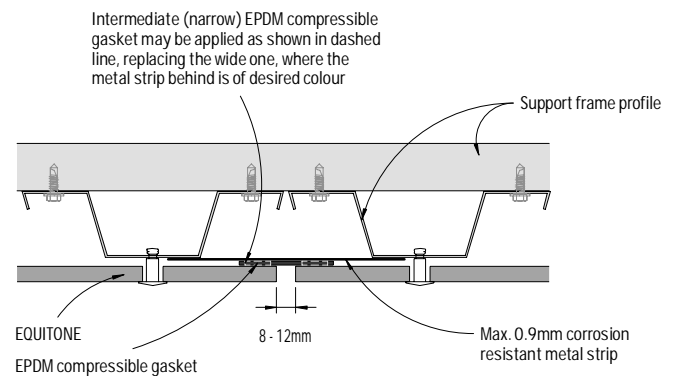

Figure 4: Vertical joint - Detail 2
2) In Figure 4 & 5, the metal strip should be fixed ONLY to one of the support frame profiles (either left or right) where allowance for horizontal and/or vertical movement of the cladding frame is required.